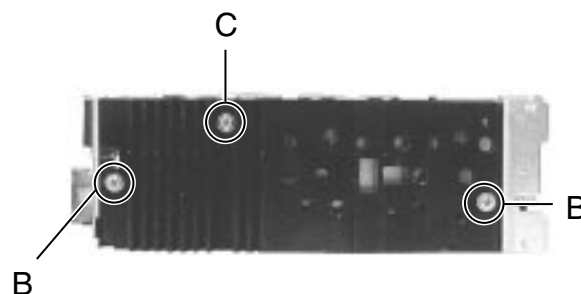
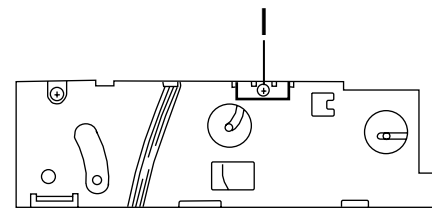

Fig 6
Fig.7
■ Removing the main board(wiht rear panel) (See Fig. 6, Fig. 7)
■ Removing the rear bracket (See Fig. 7)